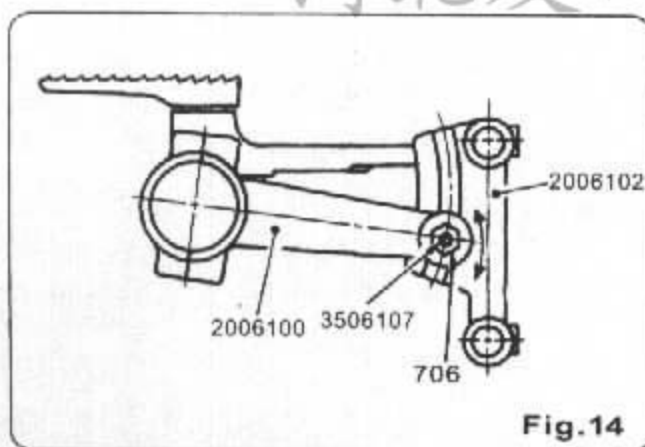

Fig. 14
The stitch length adjustable in the range of 7 to 16mm. Your machine is set at the standard stitch length of 10mm in our point before shipment. To adjust, loosen nut (706) of feed regulating stud (3506107) which connects feed rocker (2006102) and feed rod (2006100), and move feed regulating stud vertically, as shown in (Fig. 14). Bringing down the stud makes the stitch longer and moving it up shorter. After the adjustment, never forget to tighten the nut.